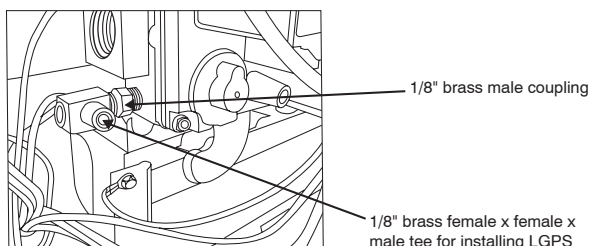

Fig. 41 - Gas Valve Inlet Pressure Tap
3. Apply pipe dope sparingly to the ends of the 1/8-in. (3 mm) brass male coupling (provided in kit) and install it in 1/8-in. (3 mm) tapped opening in gas valve inlet pressure-tap. Tighten fitting with a small wrench. (see Fig. 41).
4. Attach the female end of the female x female x male brass tee (provided in kit). Tighten fitting with a small wrench so the male portion of the tee points out from the furnace. (see Fig. 41).